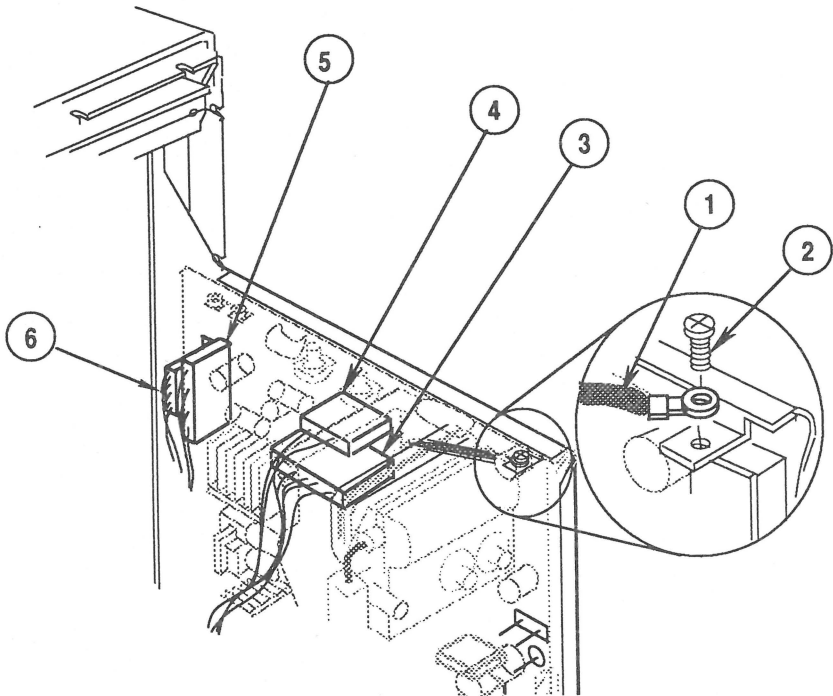

FIGURE 41
3. Replace the black ground cable (Figure 41, #1) and screw (Figure 41, #2) on the top of the chassis.
- **M** connector from the CRT yoke (Figure 41, #3)
- **F** connector from the CRT board (Figure 41, #4)
- **D** connector from the CRT board (Figure 41, #5)
- **H** connector (8 pins) from the video board (Figure 41, #6)